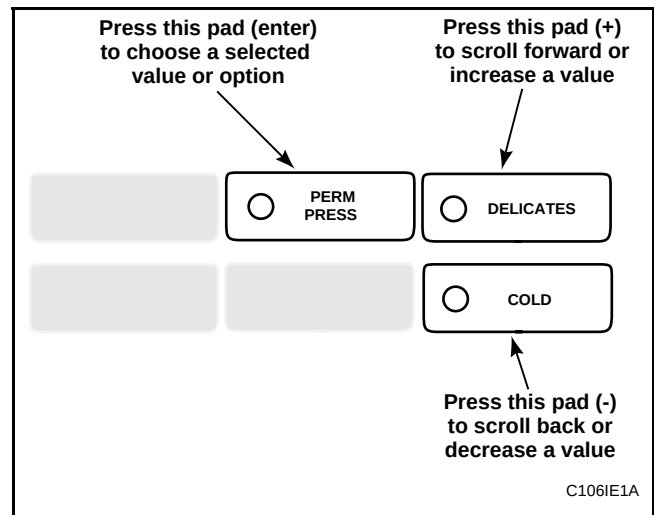

Figure 27
5. Press the DELICATES (+) or the COLD (-) keypad to increase or decrease the current number of coins displayed in the VFD to the desired number of coins. See **Figure 27**.